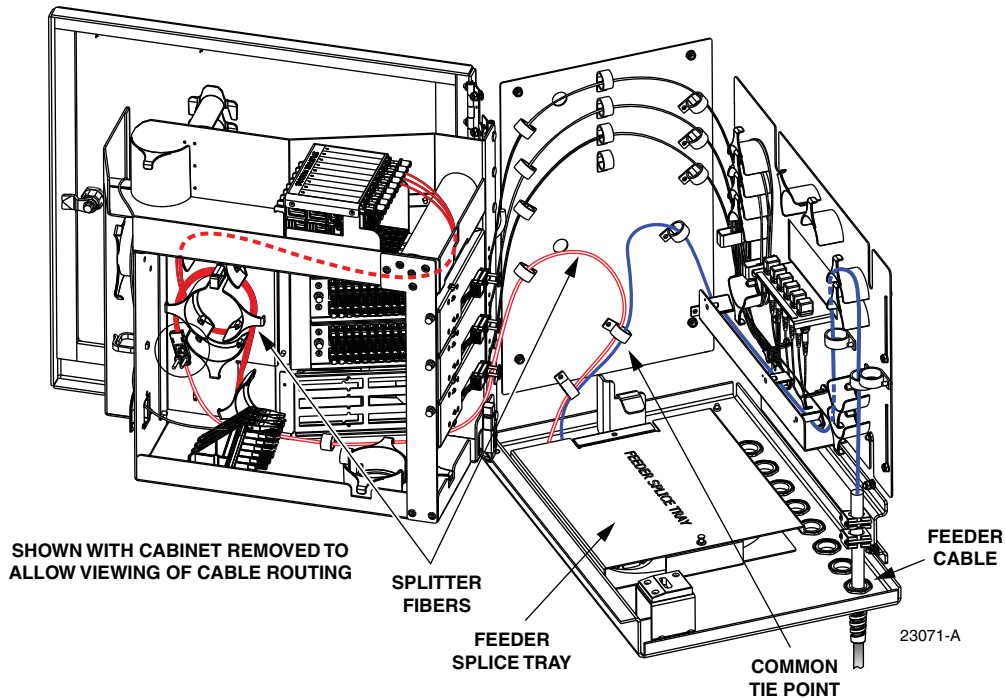

Figure 34. Feeder Splice Tray and Feeder/Splitter Fiber Routing
1. Locate the feeder splice tray assembly mounted at the bottom of the cabinet, as shown in Figure 34, and locate the splitter input fibers which are routed to the feeder splice tray.